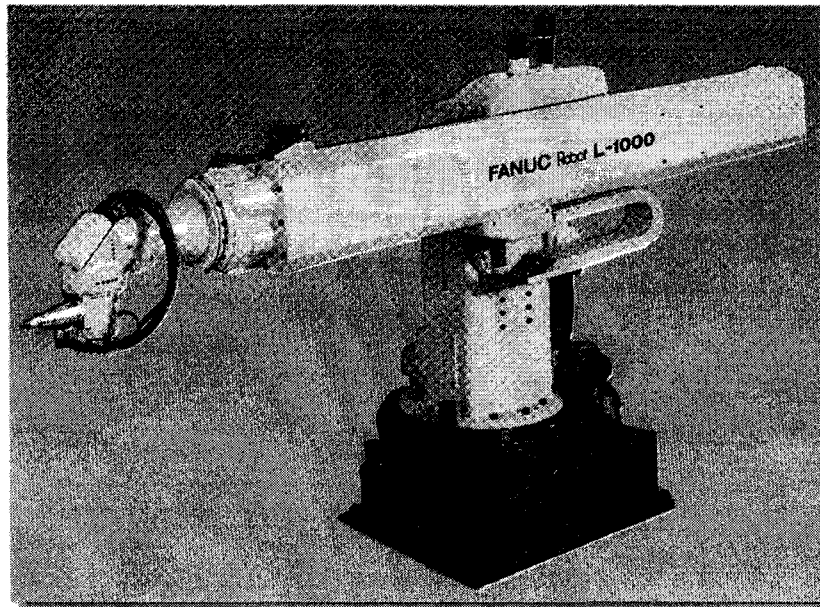

Figure 1
1. From Fig. 1, what is kind of the robot? What material handling work is the robot appropriate for? In general, how many methods can program the robot? Explain all of them. (10 points)